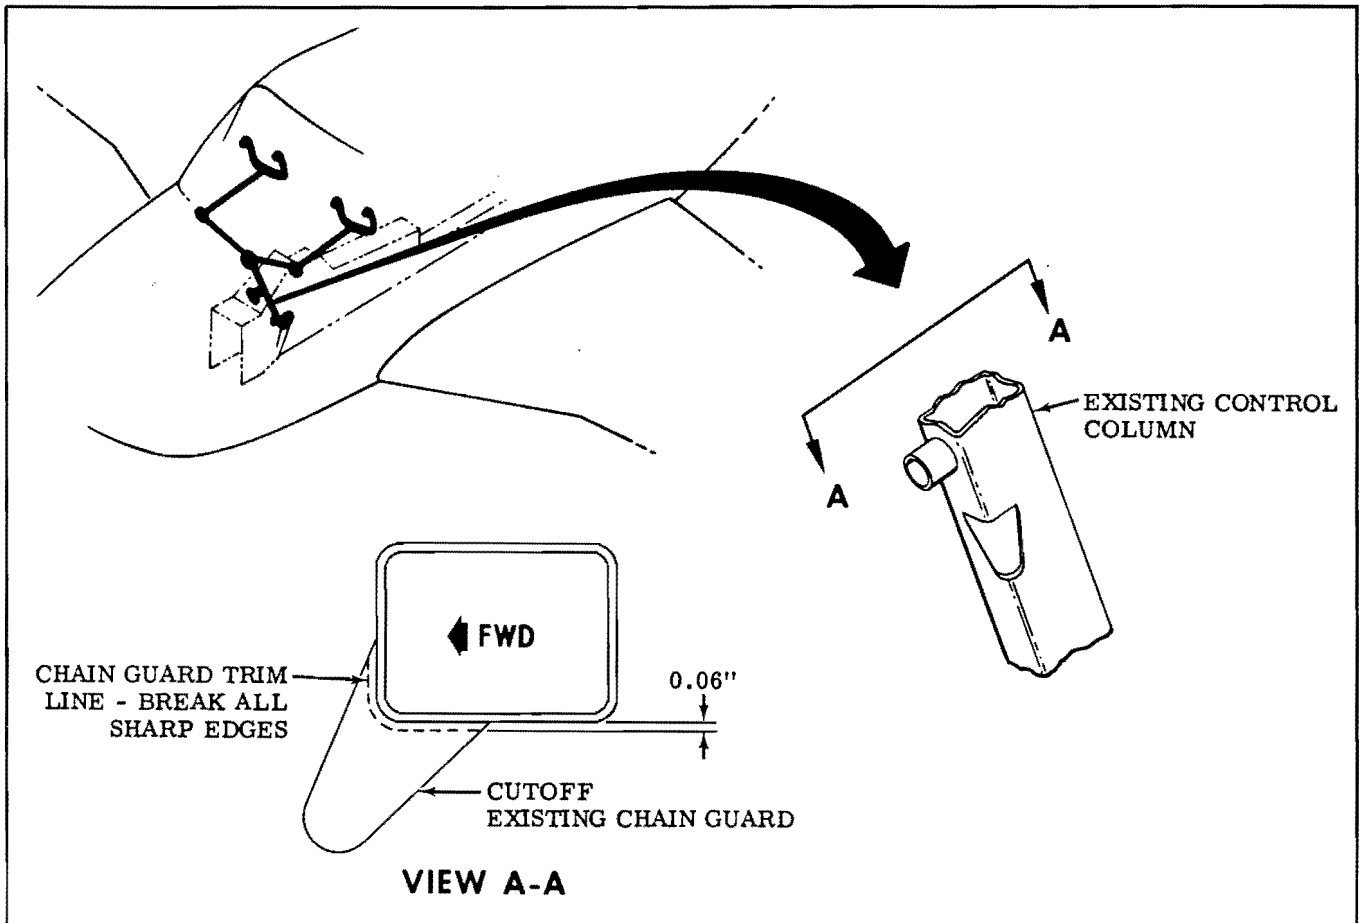

Figure 1.
1. Cut off existing chain guard, located on left forward side of control column, as shown in Figure 1.